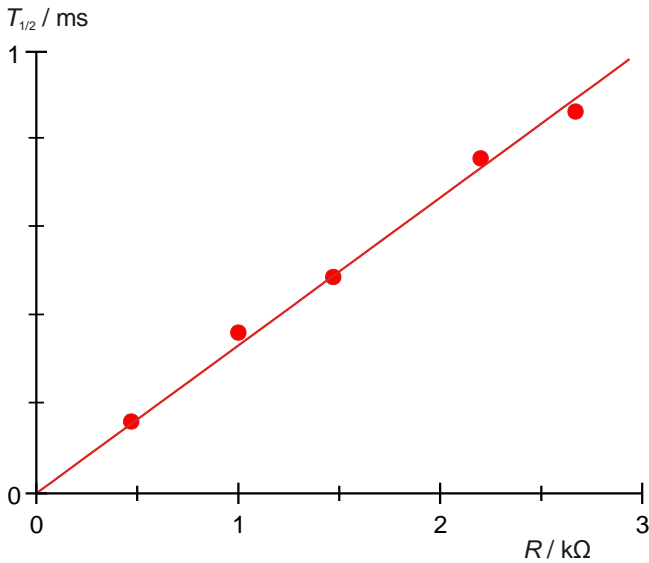

Fig. 5: Half-life $T_{1/2}$ as a function of resistance R .
- Plot the “half-way” values $T_{1/2}$ from Table 3 against the resistance R on a graph and join up the points with a straight line through the origin (Fig. 5).
- To verify equation (3), determine the capacitance C from the gradient of the line m_C .
- Plot the “half-way times $T_{1/2}$ from Table 5 against the products $R \cdot C$ on a graph and join the points with a straight line through the origin (Fig. 5).
- To verify equation (3), determine the resistance use the gradient of the line m to determine that the coefficient of proportionality is $\ln 2$.